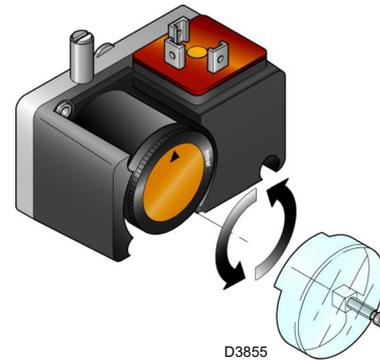

Fig. 31
- Adjust the minimum gas pressure switch (Fig. 31 at page 32) to the start of the scale.
Adjust the minimum gas pressure switch (Fig. 31) after having performed all other burner adjustments with the pressure switch set to the start of the scale.